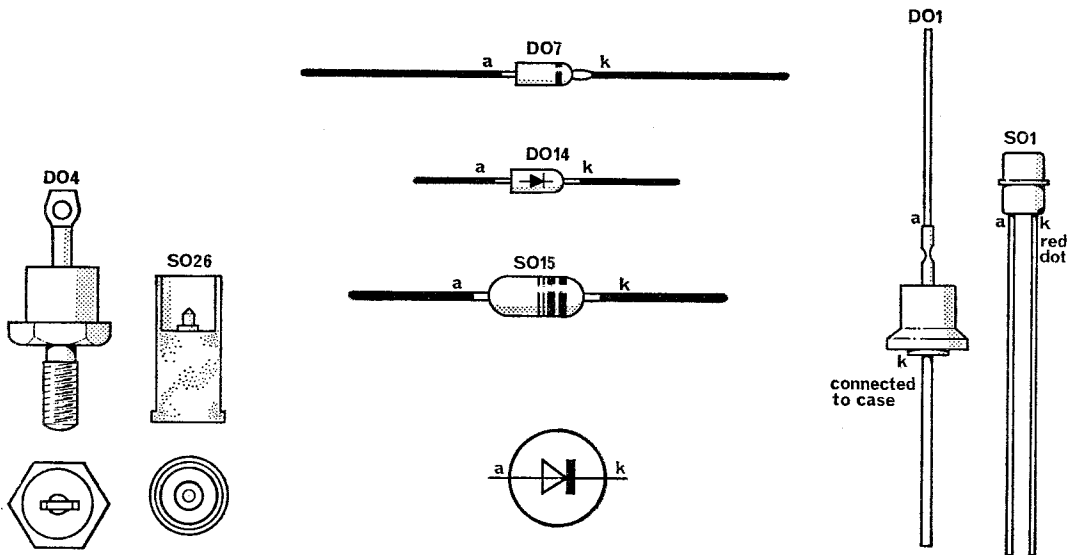

Fig. 2 Diode outlines (actual size)
17. **Polarity.** In order for semi-conductor diodes to operate they must be installed with the proper polarity. Reversed polarity could result in damage to the diode or to its associated components. Unfortunately there is, as yet, no standard method of marking diode polarities and different manufacturers use their own methods. It is even likely that spare diodes of a given CV type may be marked differently from those of the same type originally fitted by the equipment manufacturer. Some of the more common diode packages and markings are shown, actual size, in figure 2. The cathode end of the package may be marked with a red, blue or black band (or bands) or it may be coloured red, blue or black. Single-ended packages have a $+$ sign, a red dot or the letter *k* stencilled near the cathode lead. Where there is any doubt, the polarity of a device can be checked on a multimeter as described in the next paragraph.